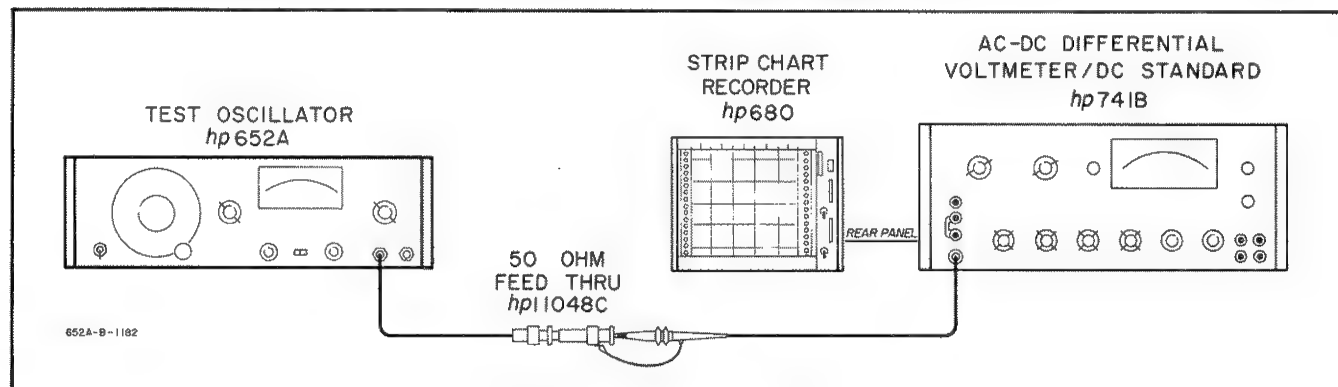

Figure 5-6. Amplitude Stability Test.
a. Connect ac differential voltmeter and strip chart recorder to 652A as shown in Figure 5-6.